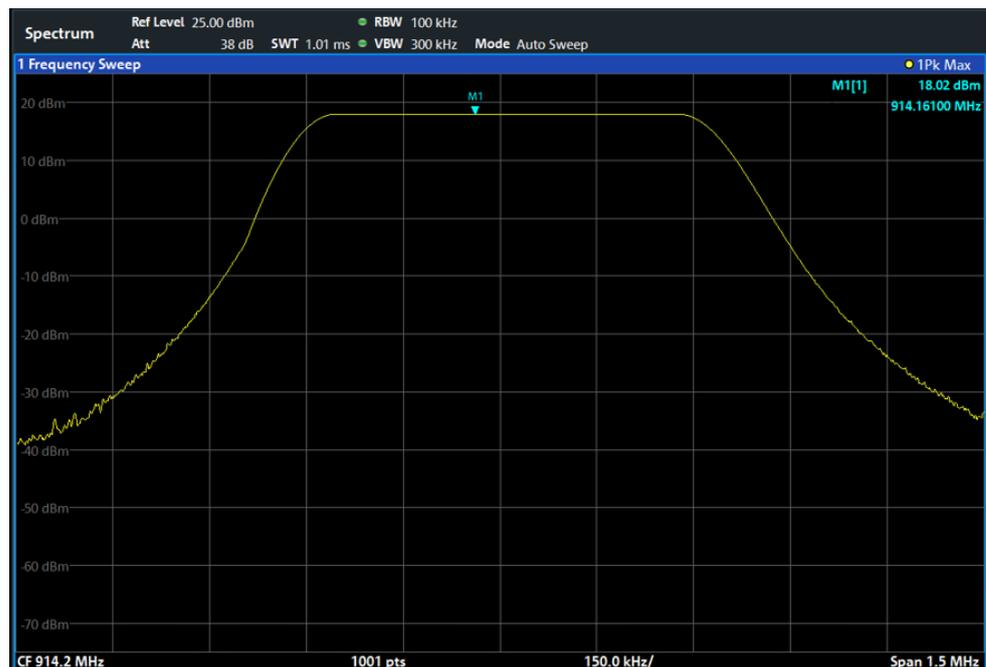

Figure 2-12: Measurement of maximum radiated power as reference value with $f_{TX} = 914.2$ MHz
10. Press the *Freq* key and enter the transmit frequency set on the DUT. Retain all other settings. Wait until the trace is stable. Using the peak marker, note down the value as the reference value Ref_{high} (Figure 2-12).